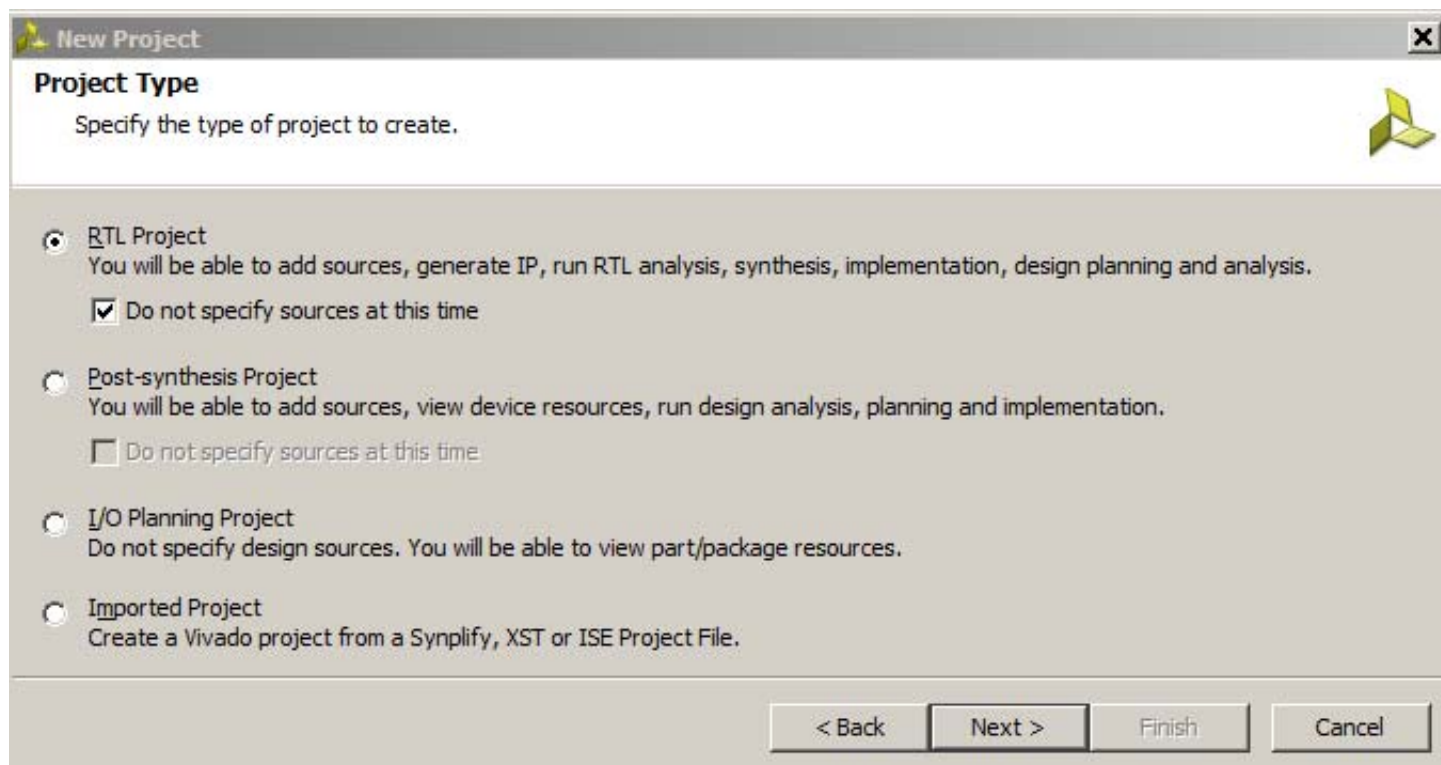

Figure 19: New Project Window (Project Type)
7. In the **Project Type** dialog box, select **RTL Project** (Figure 19).